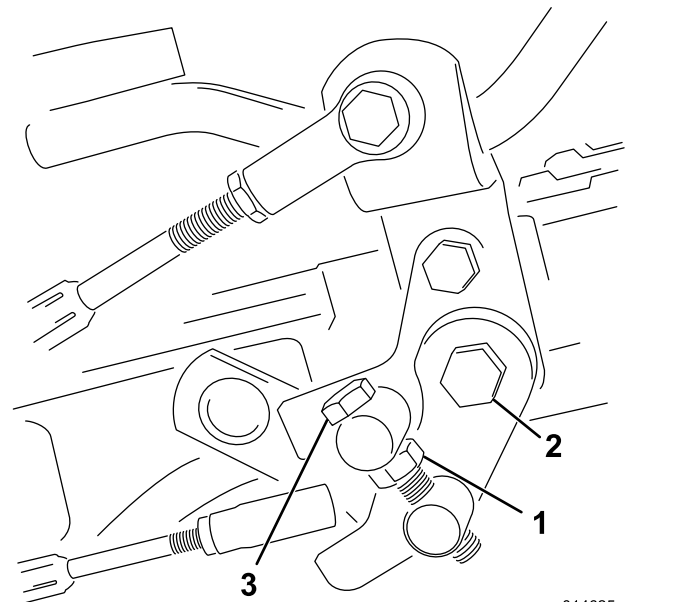

Figure 41
1. Loosen the jam nut on the trunnion bolt (Figure 41).
4. Tighten the jam nut on the trunnion bolt and the nut on the pedal pivot to lock the adjustment (Figure 41). Check the adjustment and adjust as required.